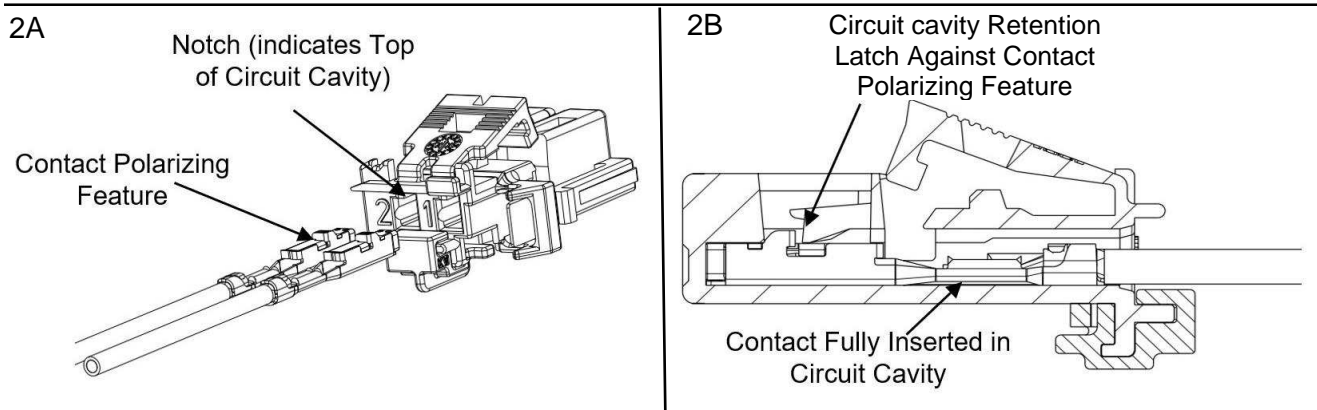

Figure 2
- a. Grasp the wire of the contact and align the contact with the selected circuit cavity so that the contact polarizing feature faces in the top of the circuit cavity (notch indicates top). See Figure 2, Detail A.
- b. Insert the contact straight into the circuit cavity until it bottoms. If there is significant resistance during insertion, remove the contact, and verify orientation. There should be an audible or tactile “click” when the contact is fully seated. See Figure 2, Detail B.
- c. Gently pull the wire to ensure that the contact is locked in place. See Figure 2, Detail B.